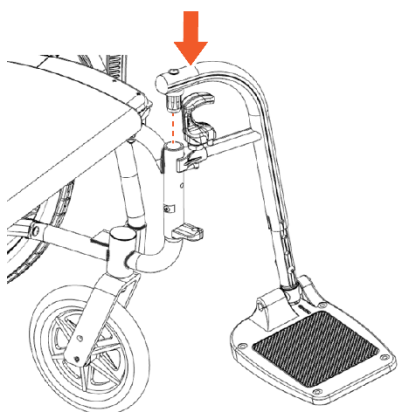

Figure 4.13
1. Turn the swing-away footrest to the side, and install the swing-away footrest onto the wheelchair frame. (See Figure 4.13.)